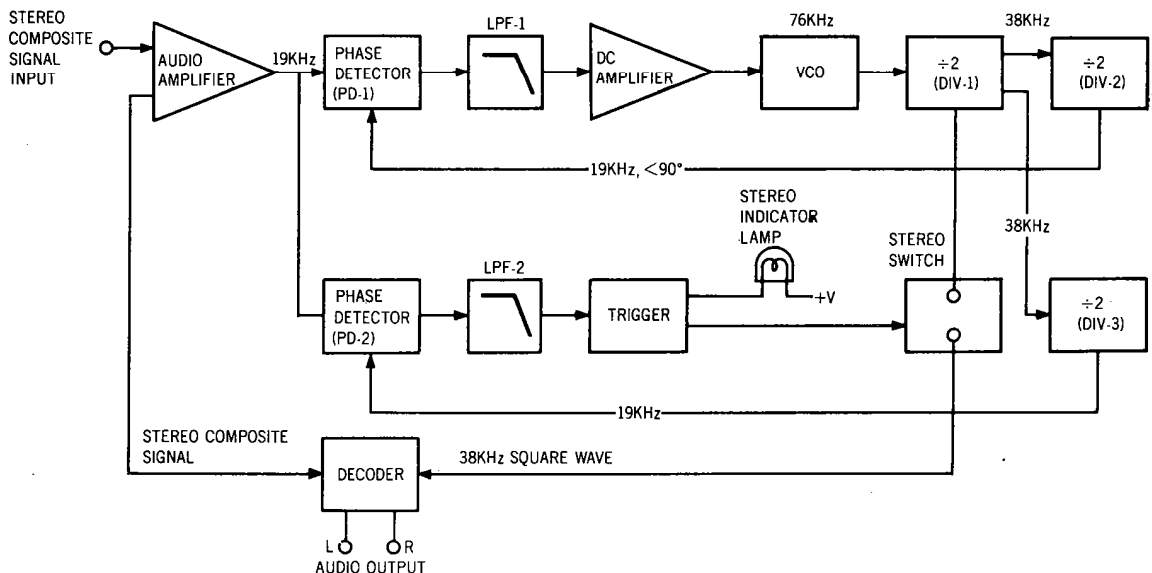

Figure 1. Block Diagram of the HA1156
coupled audio amplifier, where the signals are amplified and fed to output terminals J313. From these terminals, the audio signals are fed to the TAPE MONITOR OUT jacks through the function switch. Figure 1 presents an internal block diagram showing the functions of the PLL MPX stereo decoding IC HA1156. The input stereo composite signal, amplified by the audio amplifier, is delivered to the phase detectors PD-1 and PD-2. A part of the stereo composite signal is also delivered to the stereo decoder section. The VCO (Voltage Control Oscillator) produces a free run oscillation of approximately 76kHz with the time constant determined by capacitor C305 and resistors R311 and R312 connected on the outside to pin ⑭. The VCO output has its frequency divided down to 19kHz through the two frequency divider stages (DIV-1, DIV-2), and is returned to the phase detector PD-1, which contains two input terminals designed to produce an output in proportion to the product of the two input signals. The signal fed to one PD-1 input is a 19kHz square wave formed through frequency division of the 76kHz VCO output signal by the two frequency divider stages DIV-1 and DIV-2, and the 19kHz pilot signal included in the stereo composite signal, as a reference signal is fed to the other PD-1 input. Therefore, the output of PD-1 which has gone through the low pass filter, LPF-1, provides DC output voltage in proportion to the phase variance between the two inputs. This DC output voltage is amplified by the DC amplifier, and is supplied to the 76kHz VCO as a control voltage. This means that the output frequency and phase of the VCO have been phase-locked to the input pilot signal. The 38kHz sub-carrier reproduced by the PLL, as stated above, is delivered through the stereo switch to the stereo decoder section as a switching signal, thus driving the decoder stage. One of the inputs of PD-2 is given the 19kHz resulting from the frequency division completed by DIV-1 and DIV-3, whereas the other input receives the 19kHz output contained in the composite signal, and the output is provided with a DC component in proportion to the amplitude of the pilot signal.